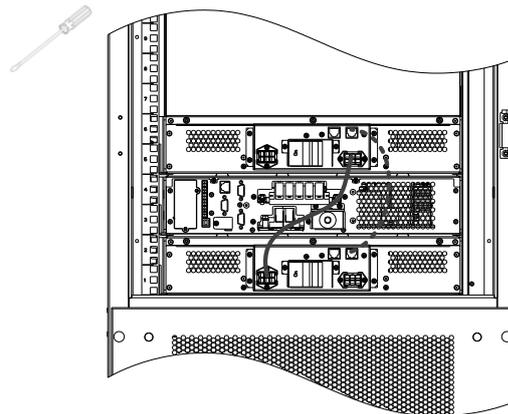

Figure 2-22 Battery wires connection
7) Use the battery module's own power cable and communication cable to connect the battery according to Figure 2-22. The solid line in the figure is the power cable, and the dotted line is the communication cable. After connecting, use a flat-blade screwdriver to tighten the power cable loosened screw.